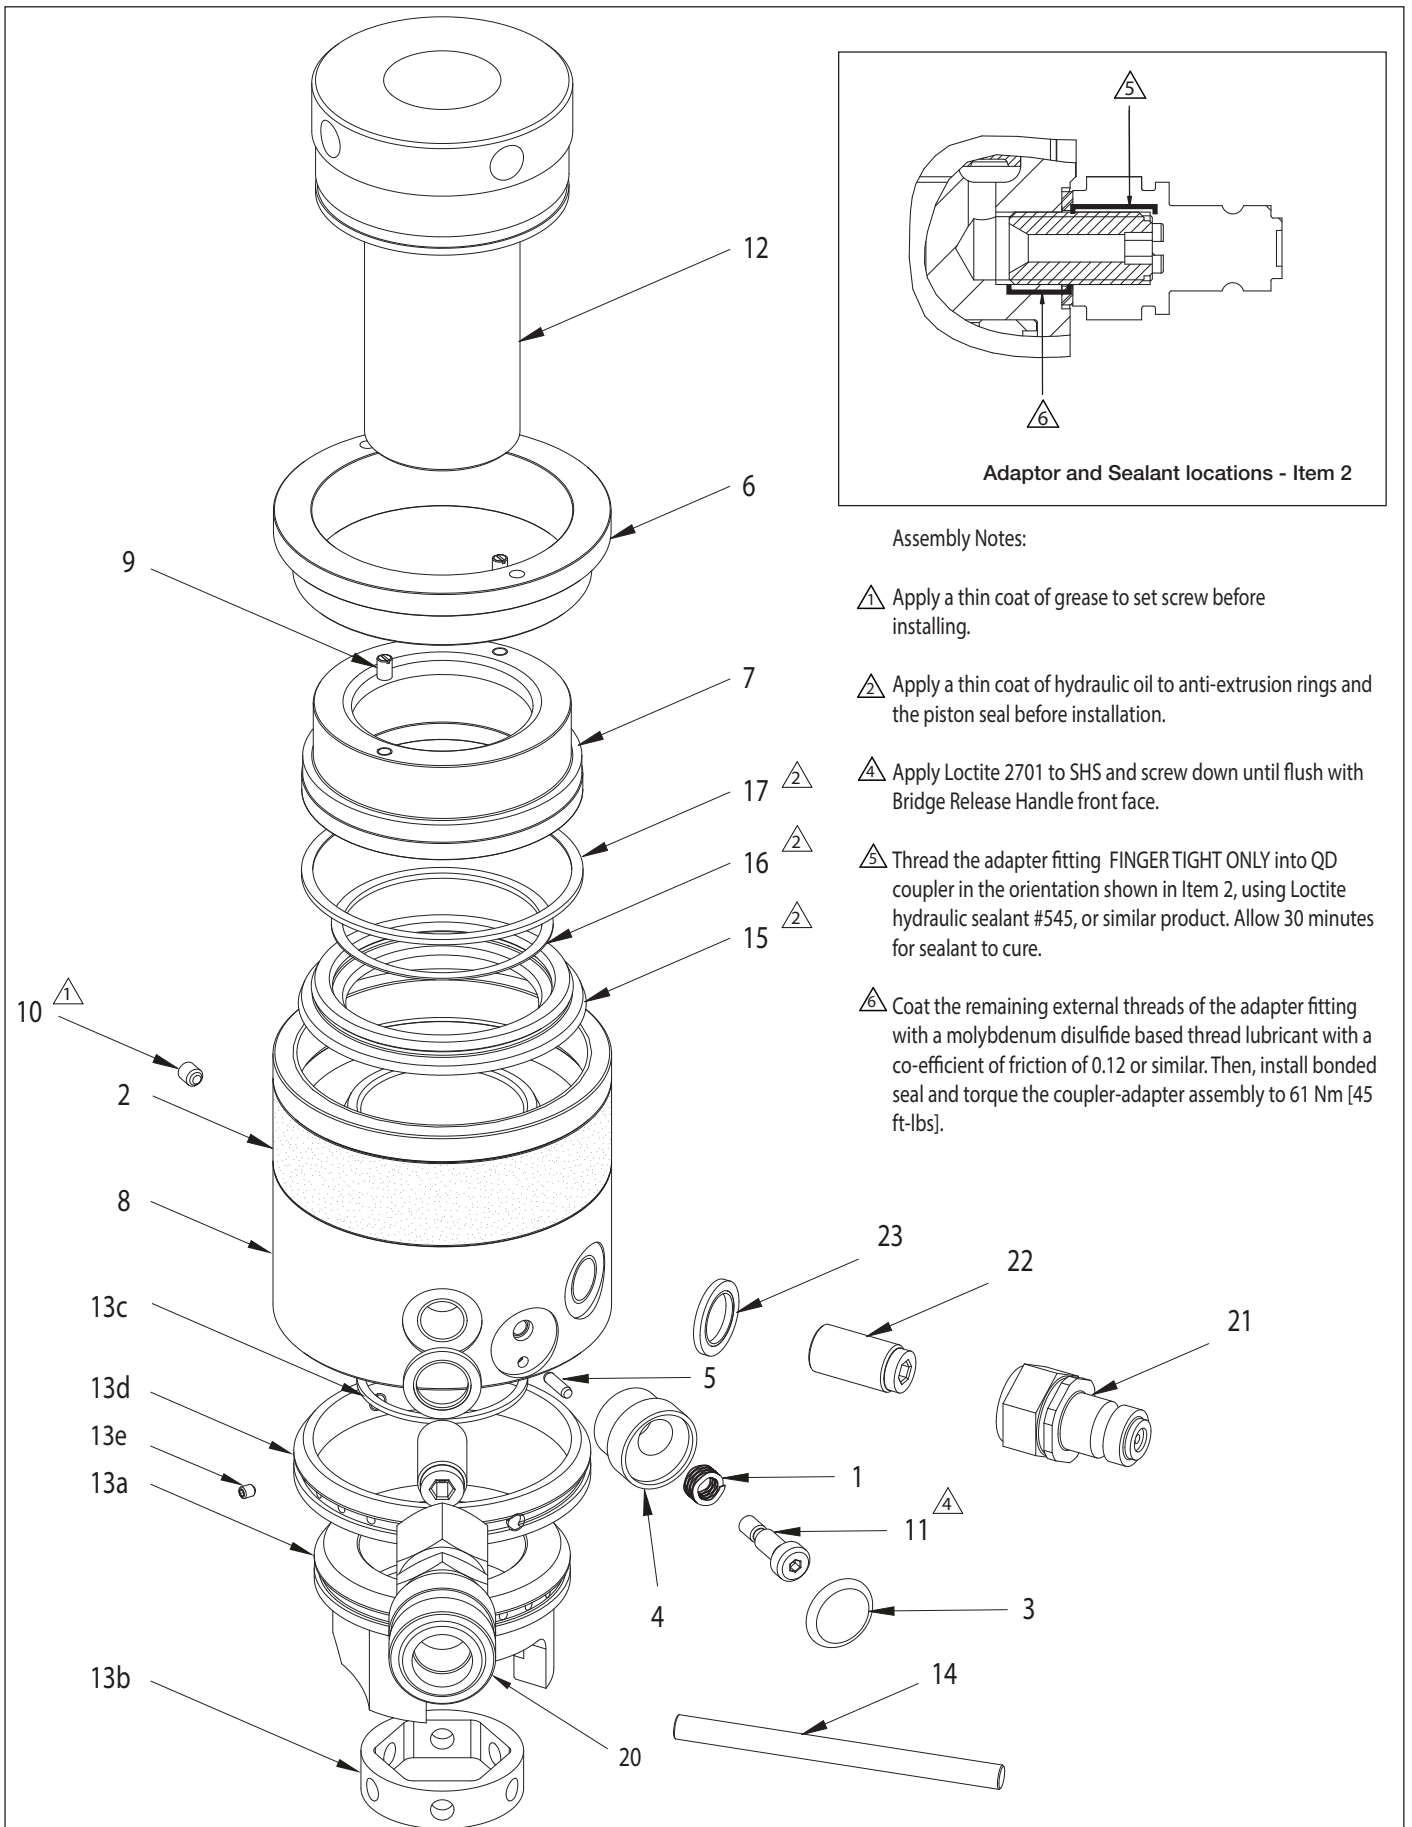

Figure 2, Exploded View, HydraMax® Series Hydraulic Tensioner (Models HM04, HM05)
**Repair Parts List For Figure 2 – HydraMax® Series Hydraulic Tensioner, Models HM04, HM05**